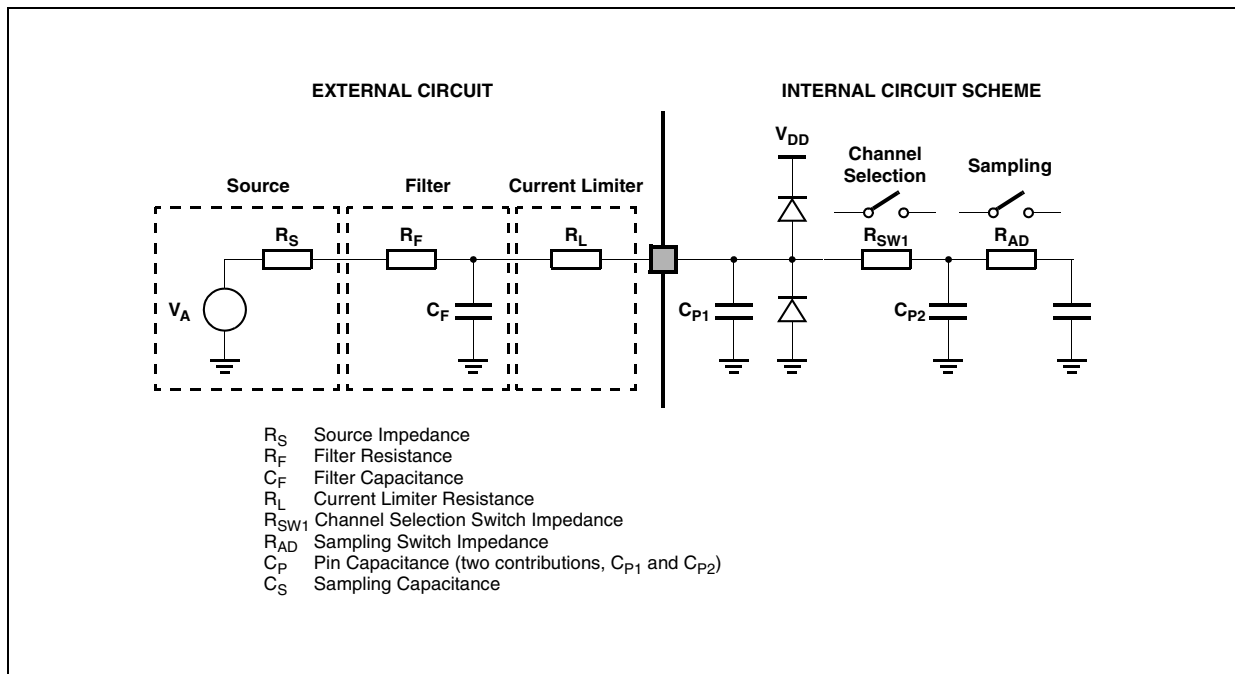

Figure 12. Input equivalent circuit
A second aspect involving the capacitance network shall be considered. Assuming the three capacitances C_F , C_{P1} and C_{P2} are initially charged at the source voltage V_A (refer to the equivalent circuit reported in Figure 12): A charge sharing phenomenon is installed when the sampling phase is started (A/D switch close).
- ⁶ See Figure 12.